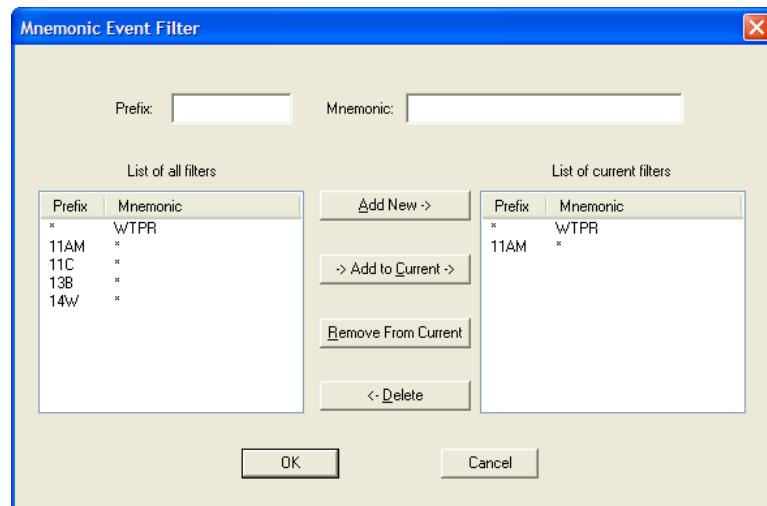

Figure 4.32 Mnemonic Event Filter dialog box
- Choose **Filters** to open the Mnemonic Event Filter dialog box (figure 4.32).
Note the separate Prefix and Mnemonic fields in figure 4.32.